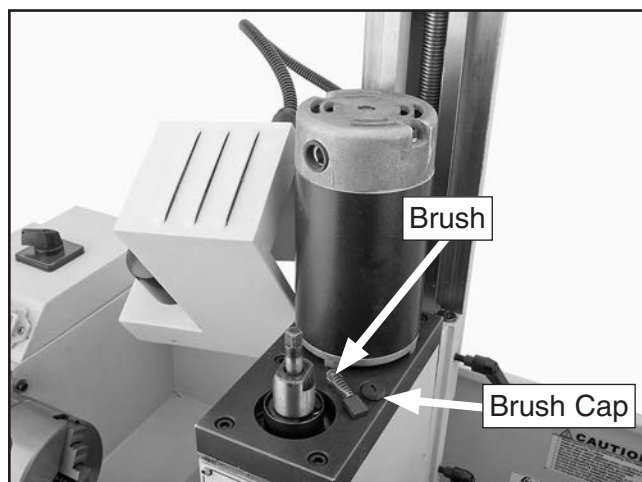

Figure 153. Front motor brush components removed.
3. Unscrew front brush cap and carefully remove brush from motor (see **Figure 153**).